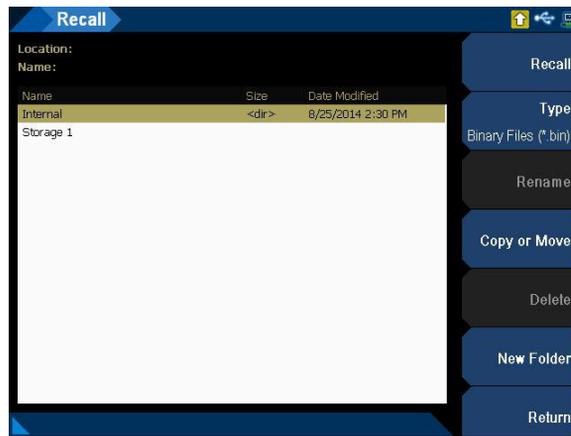

Figure 1-7 Recall menu page
- 6 Select the firmware file to be updated, and press the **Recall** softkey as shown in **Figure 1-7**. Refer to "**Recall**" on page 95 for more information on the Recall menu page.